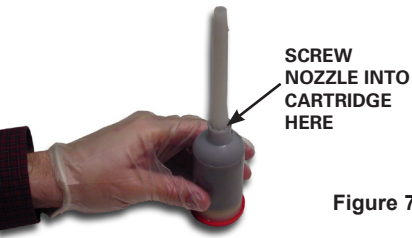

Figure 7
- Screw nozzle onto cartridge where mixing rod was removed. See Figure 7.